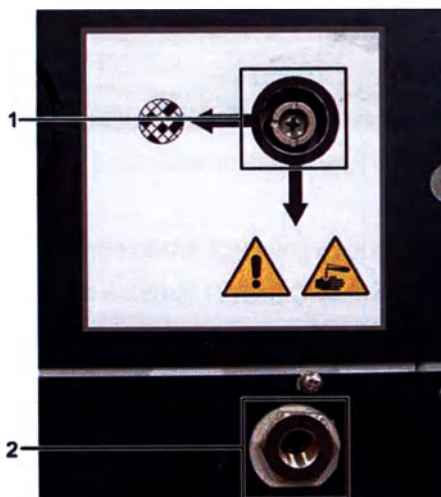

Figure 18. Vapor select valve (1) and vapor outlet (2)
1. Connect the instrument's vapor outlet into the external system (see item 2 in Figure 18).
3. If required, disconnect the external system from the vapor outlet (see item 2 in Figure 18). You may leave the external system connected as the vapor valve effectively isolates this outlet.